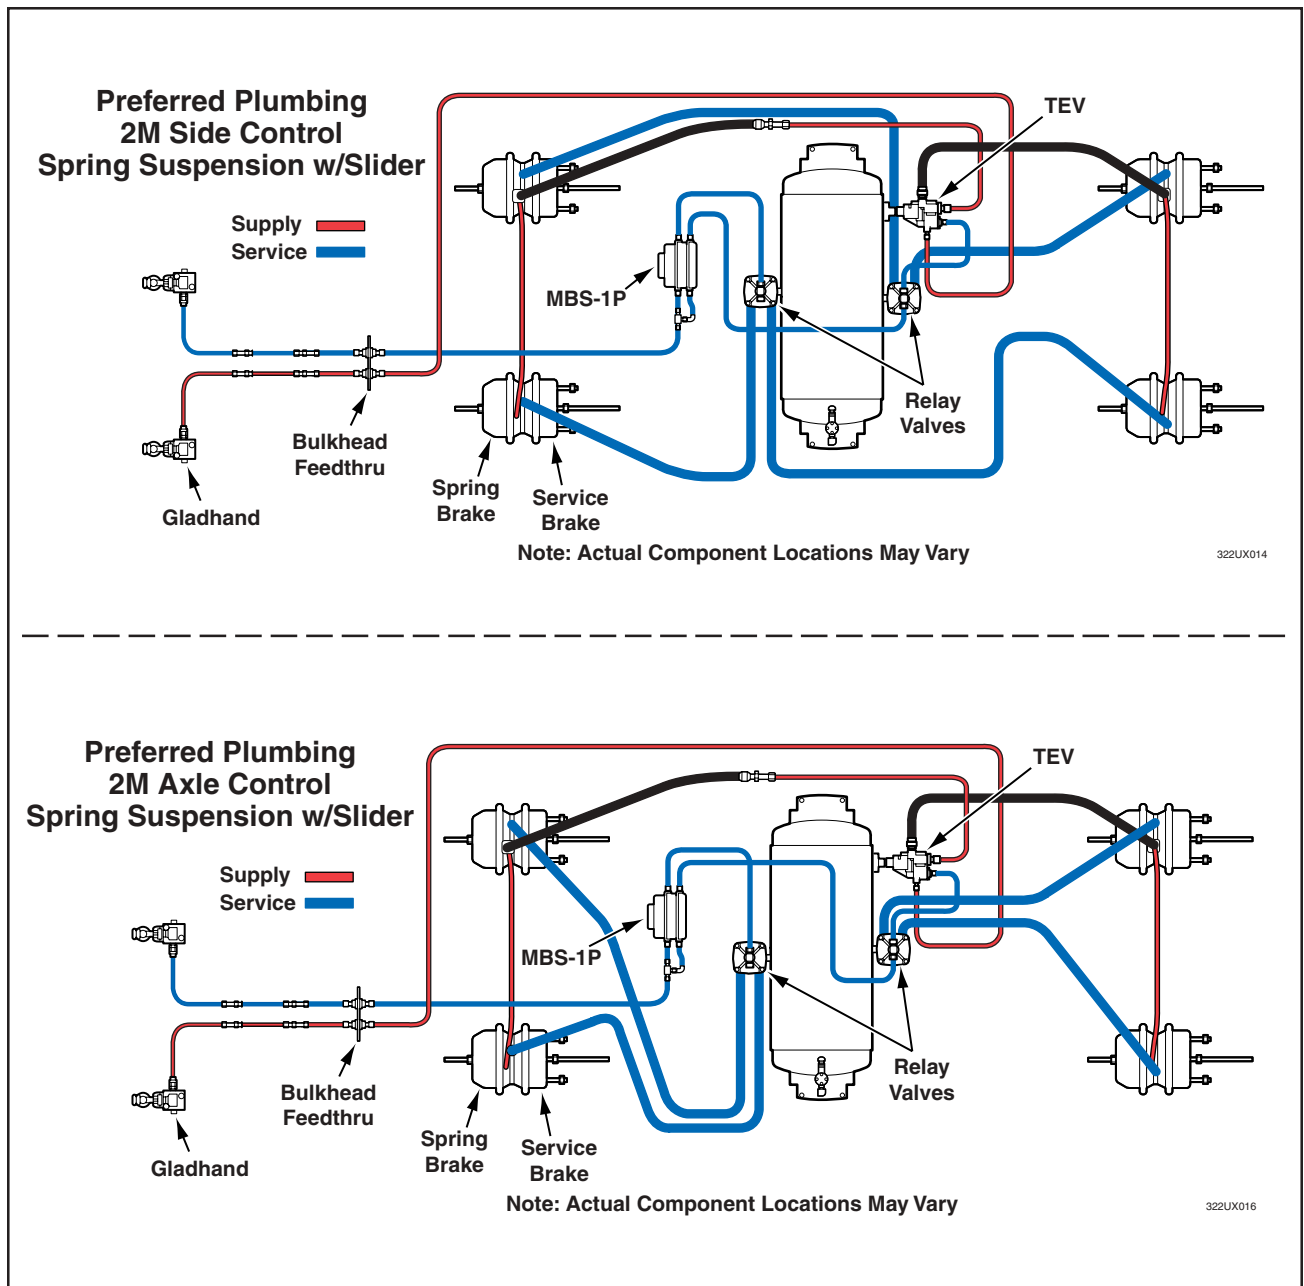

Figure 12, MBS-1P “Downstream” Air Supply Configurations (Preferred Plumbing)
2. Install the MBS-1P in the blue service line (see Figure 12).